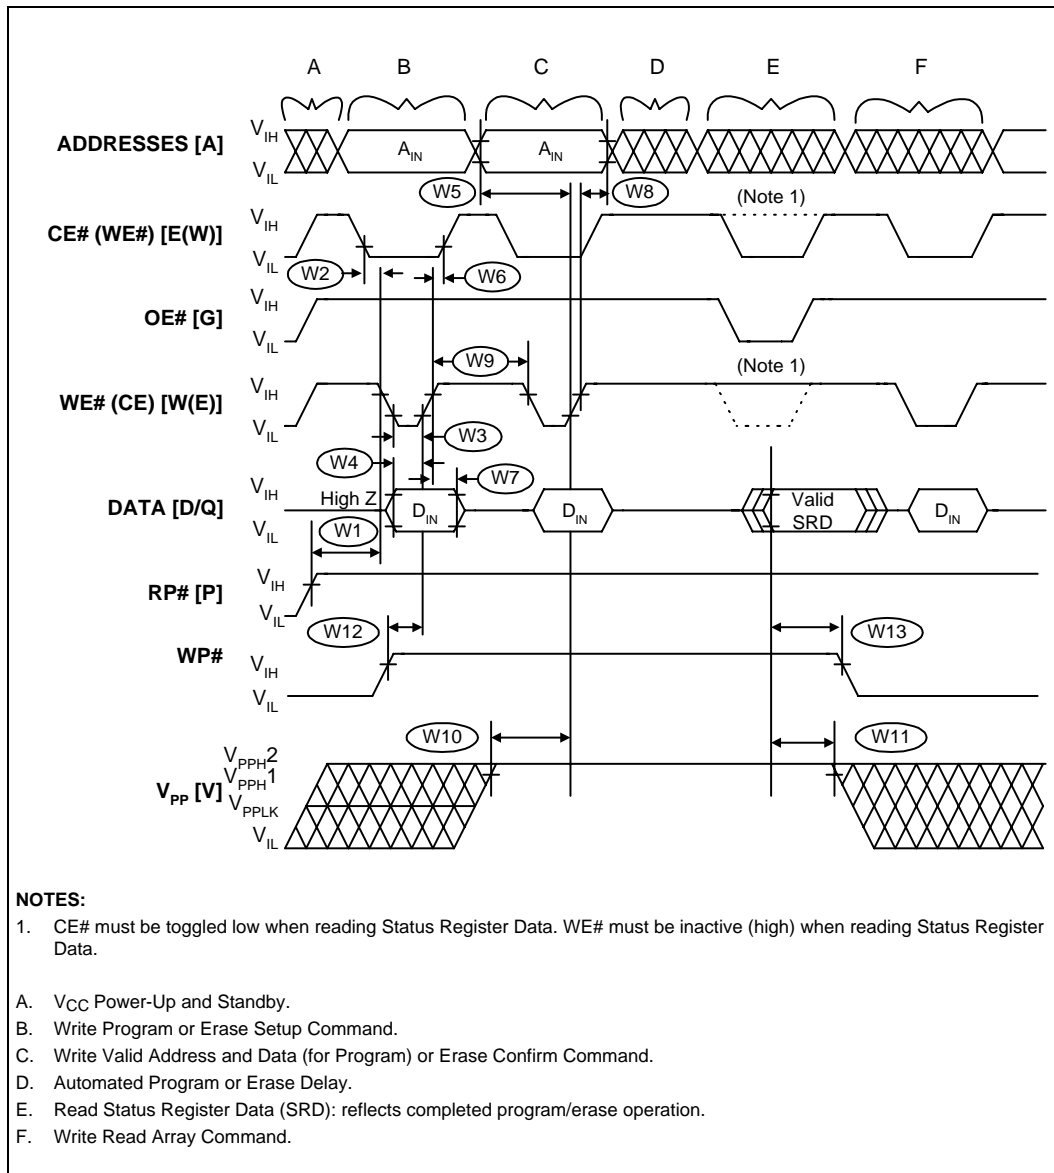

Figure 8. AC Waveform: Program and Erase Operations
6. See Figure 8: *AC Waveform: Program and Erase Operations*.